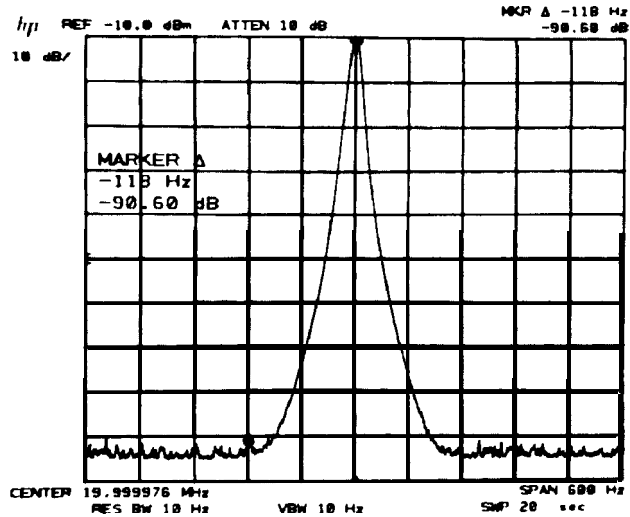

Figure 2-31. Line Related Sidebands Measurement
- Press MARKER **PEAK SEARCH**, **(Δ)** and position movable marker at the peak of each line related sideband (120 Hz, 180 Hz, and 240 Hz for 60 Hz line frequency; 100 Hz, 150 Hz, and 200 Hz for 50 Hz line frequency, etc.). The MARKER A amplitude for each sideband should be <-85 dB (see Figure 2-31).